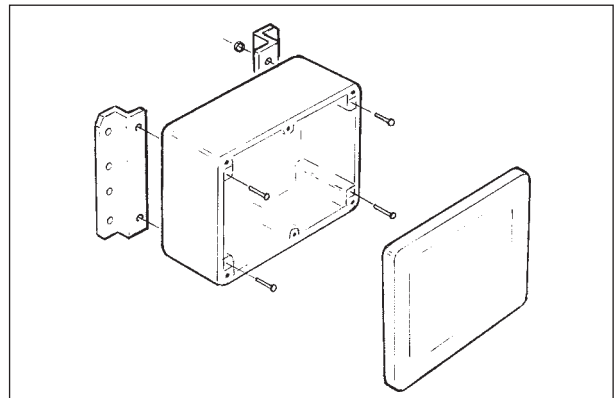

Figure 10 Fixing brackets to controller
- 13 Fix brackets to controller using 4 x M4 fixing bolts and nuts (fig. 10). For IPC or IPC( $\Delta$ P) controller only.